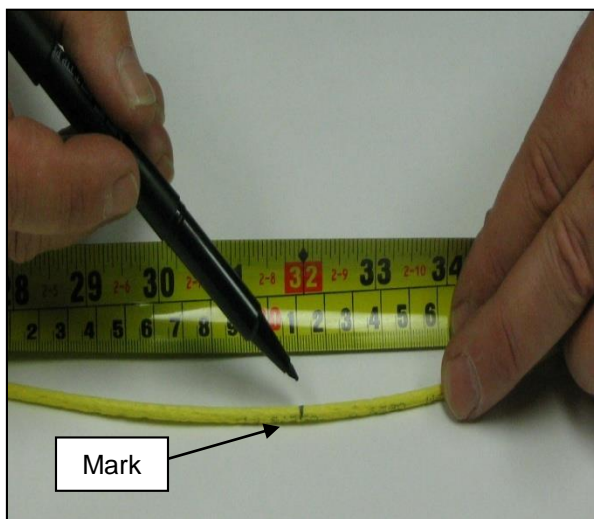

Figure 1
5.2 Use a felt tip pen to mark fiber bundle outer foam jacket at appropriate location for jacket removal. **See Fig. 1.**